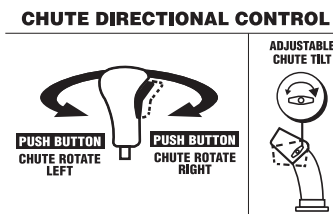

Figure 3-8
- To change direction in which snow is thrown, squeeze button on joystick and pivot joystick to the right or to the left. See Figure 3-8.